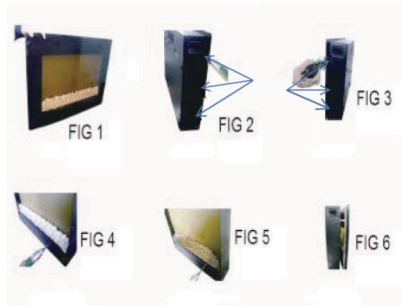

Figure 5
- 4/ The ON/OFF button at the below right of the remote is the main ON/OFF power button (Figure 5). Pressing this button activates the power to the unit.
4. Replace with the desired set (log/rock) and re-assemble new set by inserting and tightening screws (FIG 5).